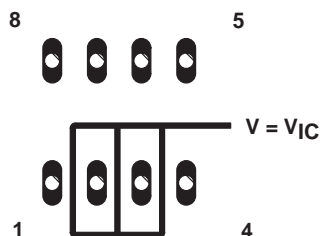
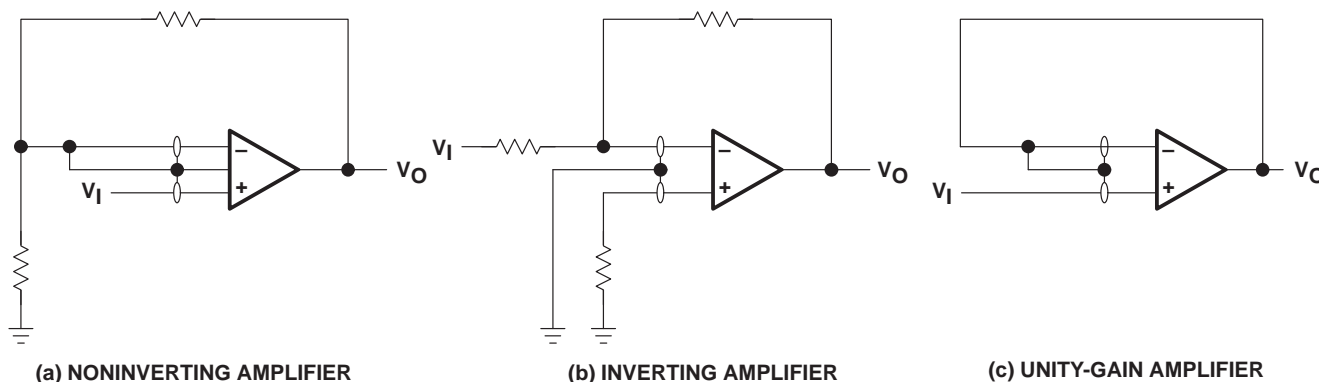

Figure 95. Isolation Metal Around Device Inputs (P package)
Figure 101. Guard-Ring Schemes
- Isolate the device from other potential leakage sources. Use a grounded shield around and between the device inputs (see Figure 95). Leakages that would otherwise flow to the inputs are shunted away.
Because of the extremely high input impedance and resulting low bias-current requirements, the TLV2341 is well suited for low-level signal processing; however, leakage currents on printed-circuit boards and sockets can easily exceed bias-current requirements and cause a degradation in device performance. It is good practice to include guard rings around inputs (similar to those of Figure 95 in the Parameter Measurement Information section). These guards should be driven from a low-impedance source at the same voltage level as the common-mode input (see Figure 101).